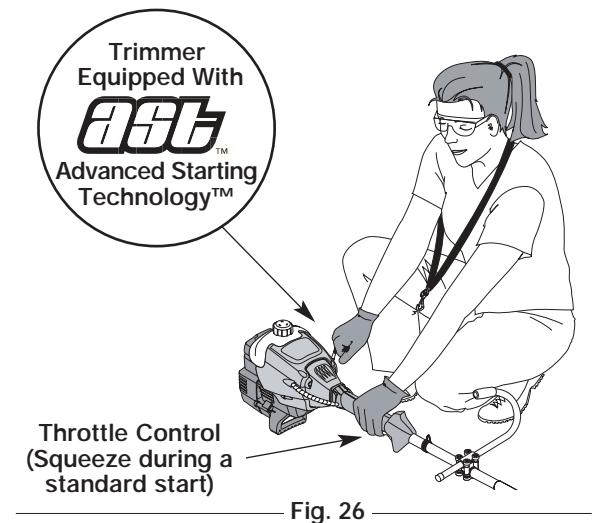

Fig. 26
WARNING: Avoid accidental starting. Make sure you are in the starting position when pulling the starter rope (Fig. 26). To avoid serious injury, the operator and unit must be in a stable position while starting.
5. Crouch in the starting position (Fig. 26) and squeeze the throttle control. Pull the starter rope 5 times.